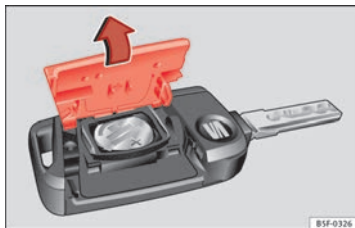

Fig. 48 Vehicle key: opening the battery compartment
- Remove the cover from the back of the vehicle key ⇒ Fig. 48 in the direction of the arrow ⇒ ①.
- Fit the cover as shown ⇒ Fig. 48, pressing it onto the vehicle key casing in the opposite direction to that shown by the arrow until it clicks into place.